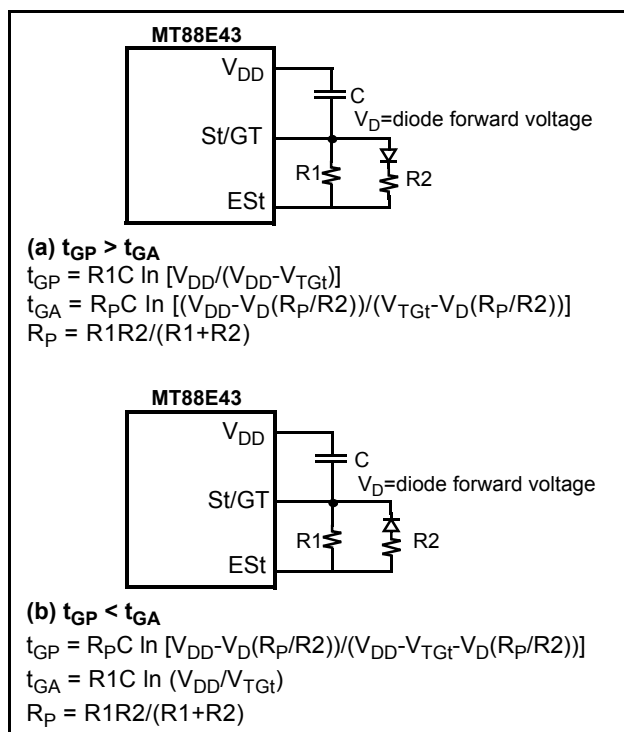
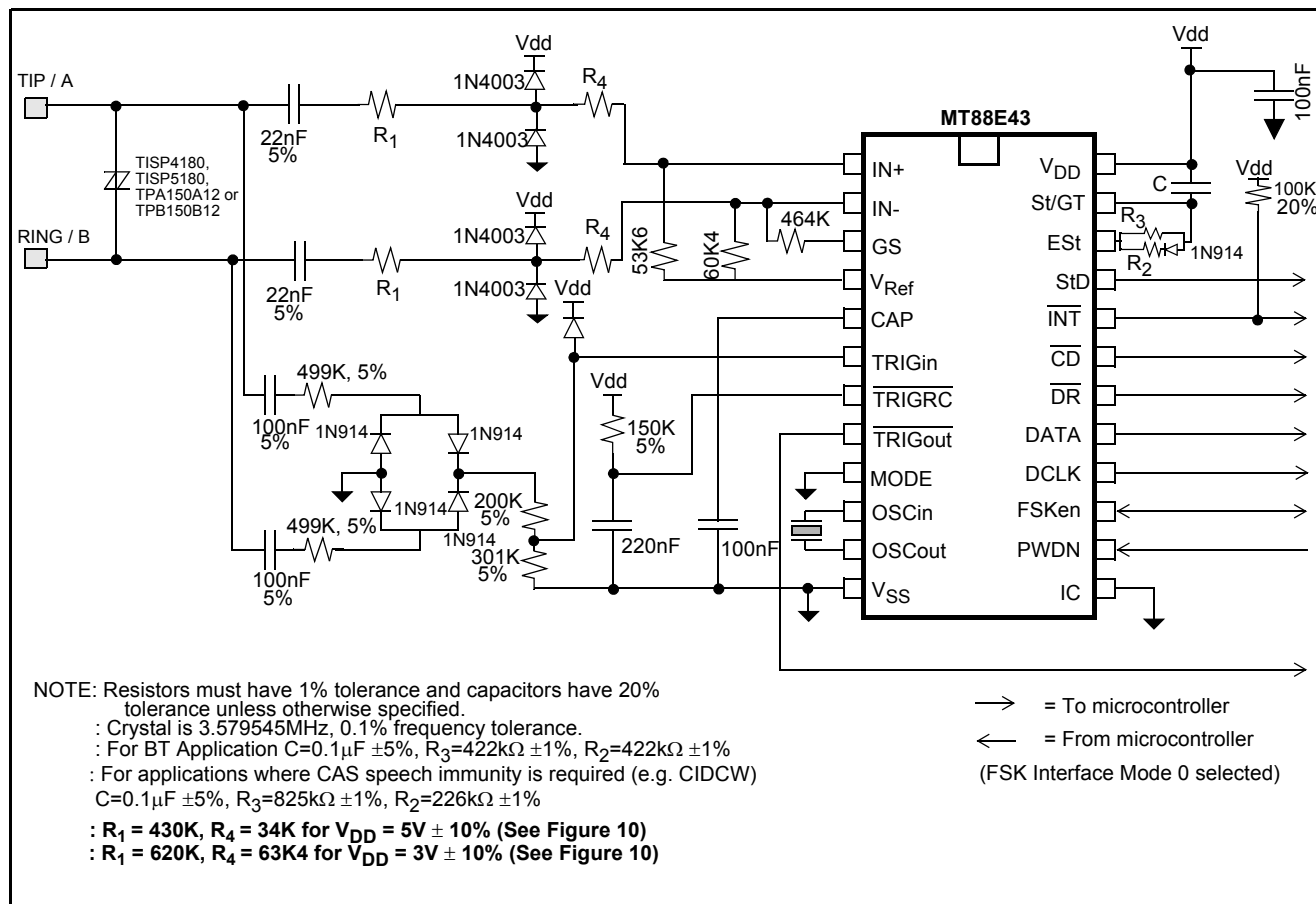
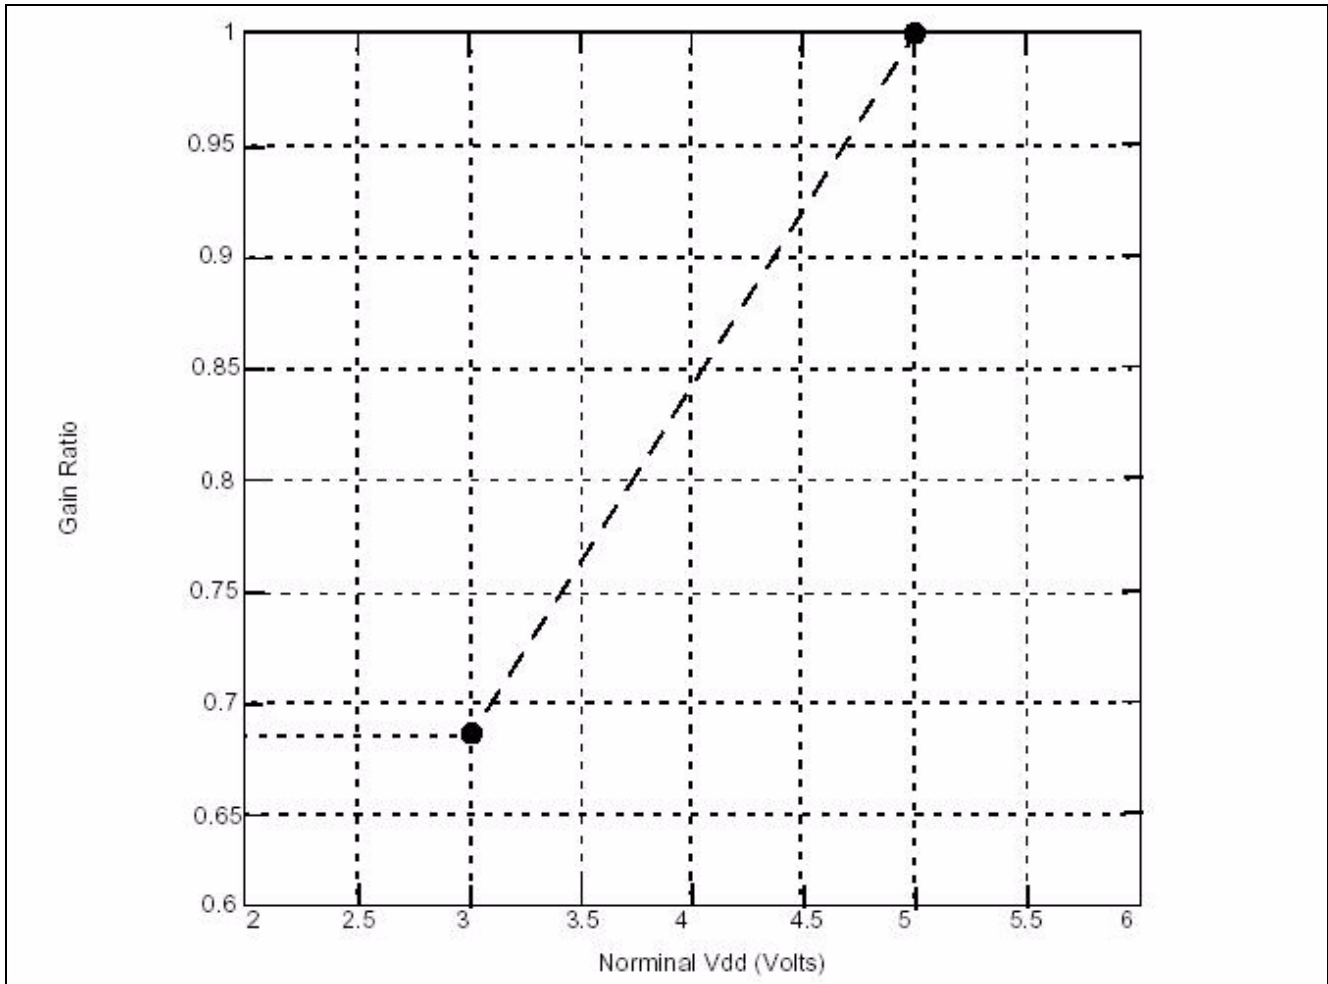

Figure 5 - Guard Time Circuits with Unequal Times
Figure 9 - Application Circuit
Figure 10 - Gain Ratio as a function of Nominal Vdd
BT specifies that the idle state tone alert signal recognition time should not be less than 20 ms when both tones are used for detection. That is, both tones must be detected together for at least 20 ms before the signal can be declared valid. This requirement can be met by setting the t_{GP} (refer to Figure 5) to at least 20 ms.
BT also specifies that the TE is required to apply a D.C. wetting pulse and an AC load 15-25 ms after the end of the alerting signal. If $t_{ABS}=t_{DA}+t_{GA}$ is 15 to 25 ms, the D.C. current wetting pulse and the A.C. load can both be applied at the falling edge of StD. The maximum t_{DA} is 8ms so t_{GA} should be 15-17 ms. Therefore, t_{GP} must be greater than t_{GA} . Figure 5(a) shows a possible implementation. The values in Figures 9 and 11 ($R_2=R_3=422K$, $C=0.1\mu F$) will meet the BT timing requirements.
The circuits shown in Figures 9 and 11 are application circuits for the MT88E43. As supply voltage (V_{DD}) is decreased, the threshold of the device's tone and FSK detectors will be reduced. Therefore, to meet the BT or Bellcore tone reject level requirements the gain of the internal opamp should be reduced according to the graph in Figure 10. For example when $V_{DD}=5V$ ($\pm 10\%$), R_1 should equal 430 k Ω and R_4 should equal 34 k Ω ; and if $V_{DD}=3V$ ($\pm 10\%$) R_1 should equal 620 k Ω and R_4 should equal 63.4 k Ω . Resistors R_1 and R_4 are shown in Figures 9 and 11.
The circuit shown in Figure 9 illustrates the use of the MT88E43 in a proprietary system that doesn't need to meet FCC, DOC, and UL approvals. It should be noted that if glitches on the tip/ring interface are of sufficient amplitude, the circuit will falsely detect these signals as ringing or line reversal.
Note: In the application circuits shown in Figures 9 and 11, the Gain Ratio of MT88E43 opamp is
3. With gain setting as shown in Figure 10. Production tested at $3V \pm 10\%$, $5V \pm 10\%$.